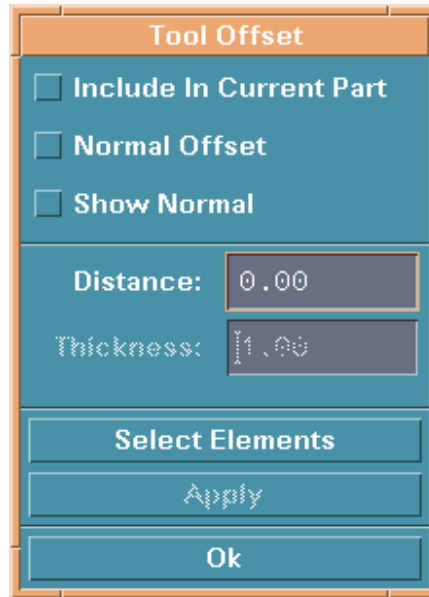

Figure 5.1.12 Tool Offset
1. Select OFFSET FROM MATING TOOL and the TOOL OFFSET dialog window displays, see Figure 5.1.12.